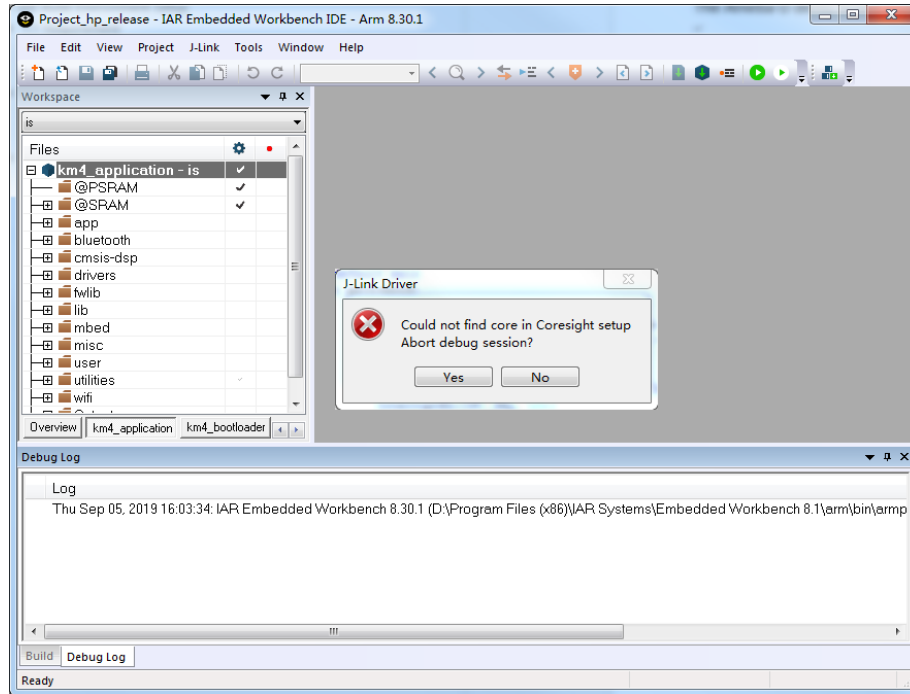

Fig 6-11 J-Link cannot find KM4
**Note:** Considering KM4 is powered-on by KM0, you should make sure that KM0 has boot up already before downloading images to KM4. Otherwise, for J-Link, J-Link can't connect to KM4 and show the error message as Fig 6-11 shows. For RLX probe, RLX Probe driver can't be opened under KM4.